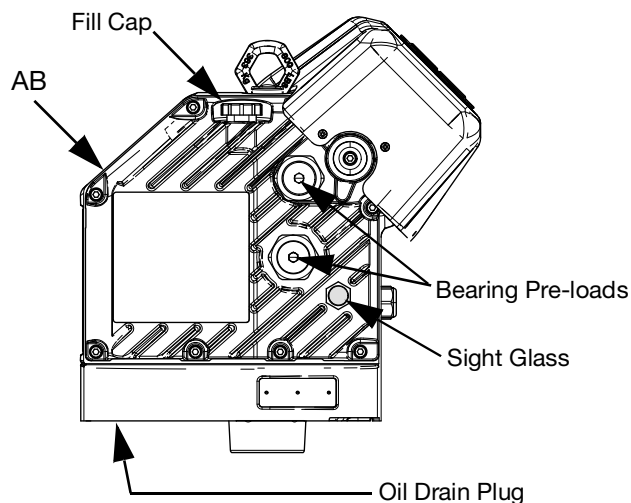

FIG. 39: Sight Glass and Oil Fill Cap
3. Remove the oil drain plug. See FIG. 39 for the location of the drain plug. Allow all oil to drain from the Driver (AB).
See FIG. 39 below. Check the oil level in the sight glass on a regular basis. The oil level should be near the half-way point of the sight glass when the Driver (AB) is not running. If the oil is low, open the fill cap and add Graco Part No. 16W645 ISO 220 silicone-free synthetic EP gear oil.